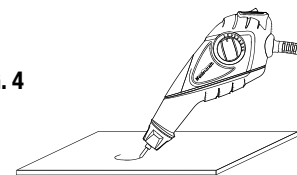

FIG. 4
- Hold the engraving tool at an angle to the workpiece as you would hold a pen (Fig. 4) and begin engraving.